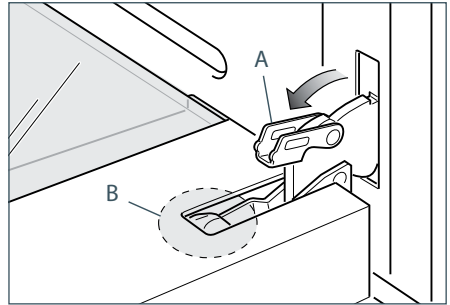
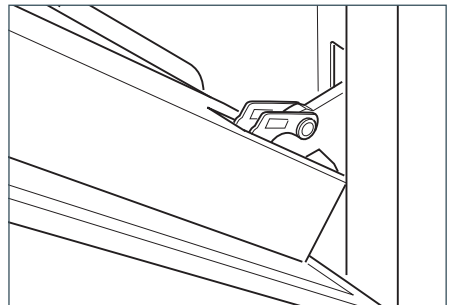

Fig.58b
Fig.58c
- Fully open the lever "A" on the left and right hinges (Fig. 58b).
- Gently close the door (Fig. 58c) until the left and right hinges are hooked to part "B" of the door (Fig. 58b).